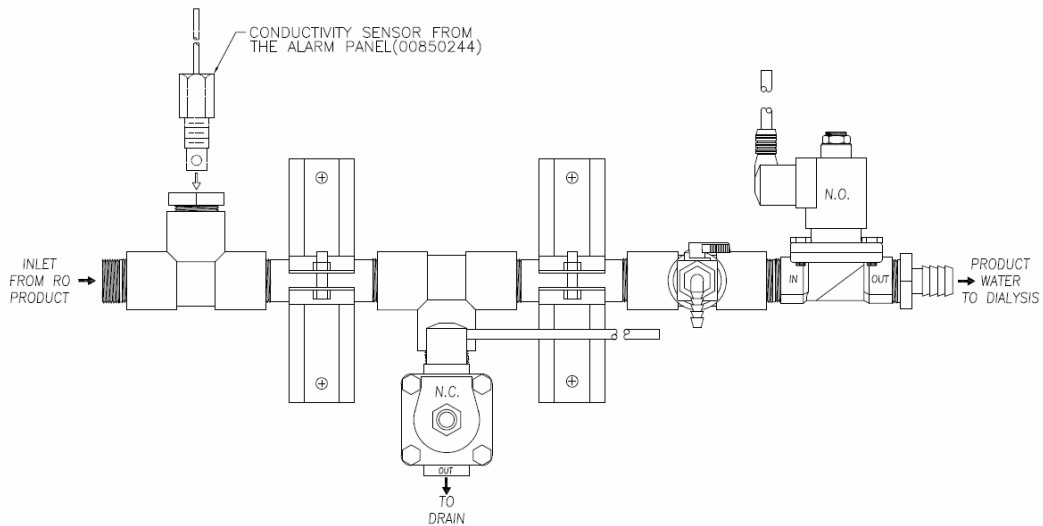

FIG. 1
3. Install the conductivity sensor from the alarm panel to the tee of the inlet side of the divert to drain valve assembly (see FIG. 1).